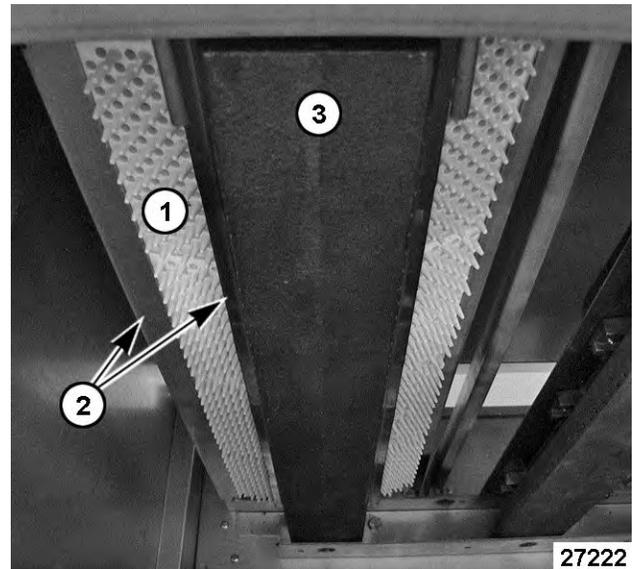

Fig. 12
4. Lift ceramic bricks [1] Fig. 12 off the support rails [2] Fig. 12 for each burner [3] Fig. 12. There are 6 ceramic bricks for each of the 3 burners (18 bricks total).